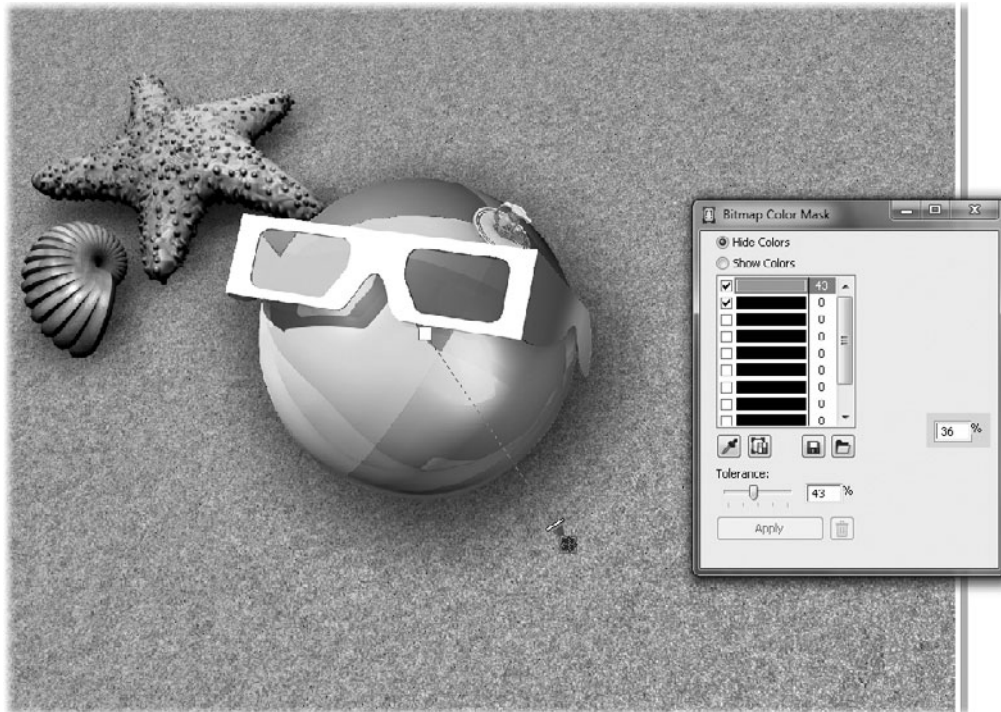

FIGURE 24-9 Use the Tolerance slider on the Bitmap Color Mask dock to increase the mask of the color you chose.
6. Let's try a little more scene integration by adding a slight shadow behind the ball. This also demonstrates how the image mask allows CorelDRAW effects to be placed behind it. Choose the Drop Shadow tool from the Blend group of tools, and then click-drag down and a little to the right on the beach ball. As you can see in Figure 24-9, the beach ball looks like it's part of the scene. As a little independent experiment (with creative mayhem), try clicking the second check box, and then with the Eyedropper tool, click over a red area of the image and see what disappears. To undo this move, all you need to do is uncheck the red swatch's check box on the docker and then click Apply.